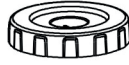

Fig 15
- Place the vacuum lid (13) on the bottle. Fig 15.